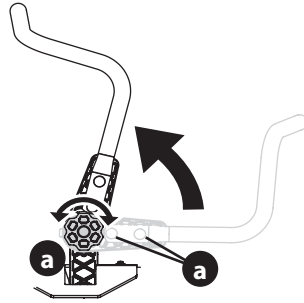

Figure 7
- Rotate the knob (a) counter-clockwise to loosen the knob (a) (Figure 7).
- Rotate the knob clockwise to secure the lapbar drive control lever into position (Figure 7).
- If the lapbars do not line up after making the knob adjustment, loosen nuts (b), align lapbars and retighten nuts. Once this fine adjustment is made, the lapbars will align when using the knob adjustment (Figure 7).